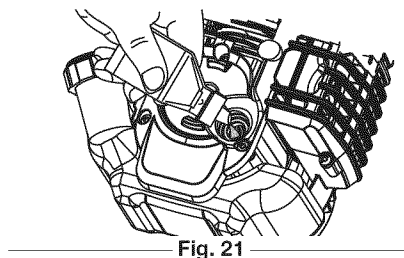
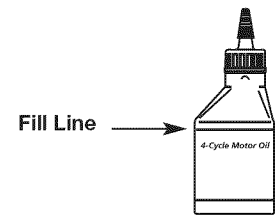

Fig. 21
Fig. 22
**NOTE:** Use the bottle and spout saved from initial use to measure the correct amount of oil. The top of the label on the bottle measures approximately 3.04 ounces (90 ml) (Fig. 22). Check the level, See Checking the Oil Level. If the level is low, add a small amount of oil and recheck. Do not overfill (Fig. 21).